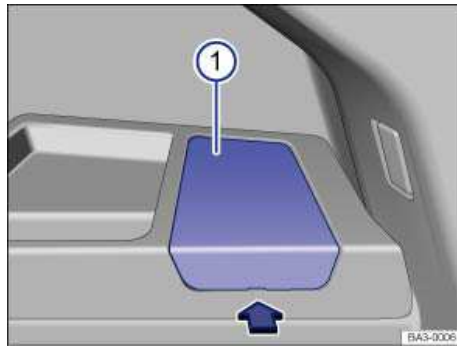

Fig. 176 At the right rear of the luggage compartment: AdBlue tank underneath a cover.
- Fold up cover ⇒ fig. 176 \(1\).